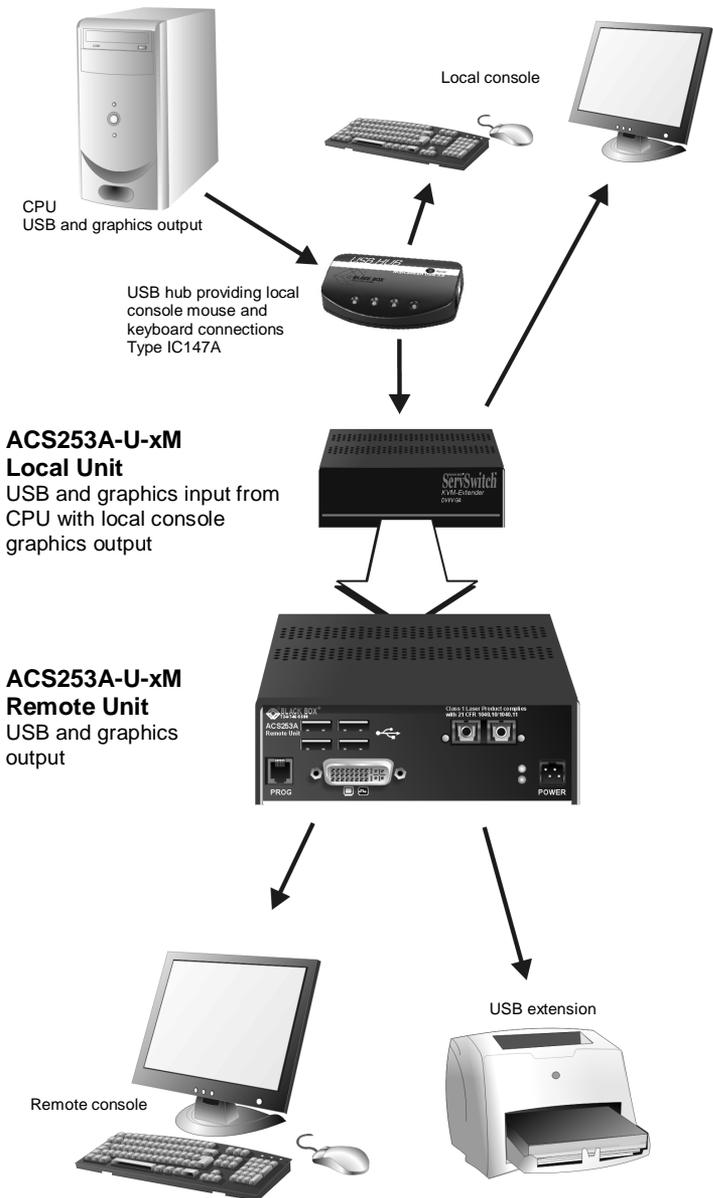

Figure 21 USB extension with local access
- USB fiber with local access (Figure 21).